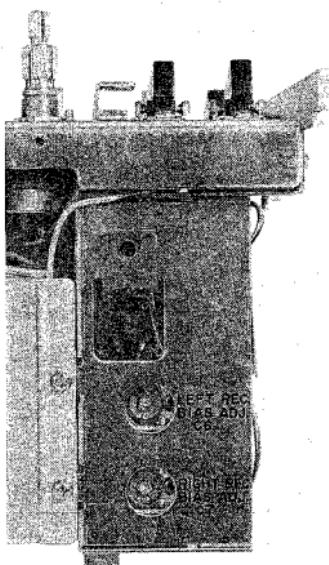

Fig. 17
4. RECORDING BIAS VOLTAGE ADJUST- MENT (FREQUENCY RESPONSE ADJUSTMENT) (See Figs. 17, 18)